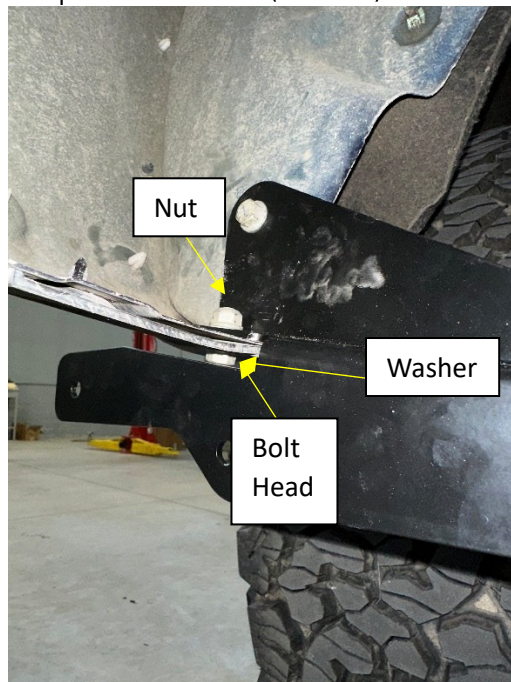

Figure 4
6. Install bottom bolt by driving it upwards in vehicle position to ensure the nut sits on your AEV Splash Guard Bracket (Figure 4).